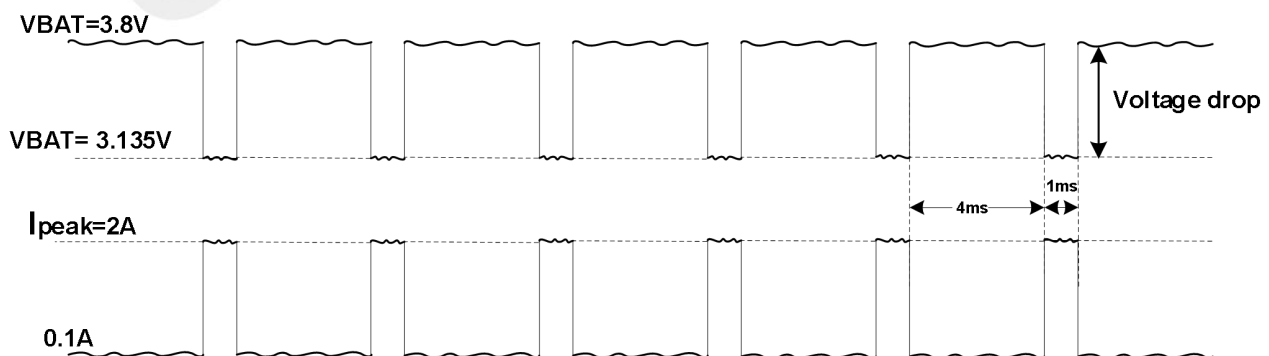

Figure 4: Maximum current consumption of the module at the maximum emission power
2. The Ipeak and pressure drop data in Table 7 and Figure 4 are theoretical values, and the power supply voltage of the module is 3.8V. The actual data is connected with the SIMCom EVB connected instrument .